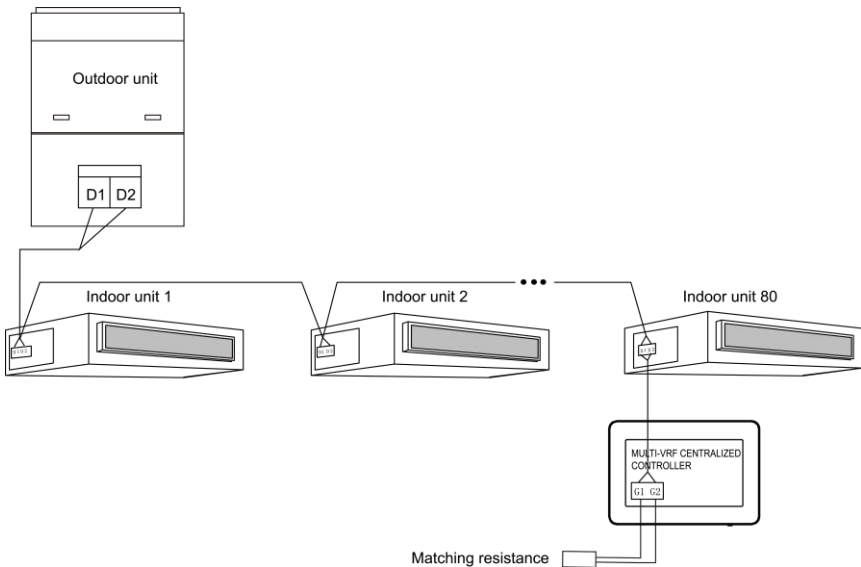

Fig.1.4 Centralized Controller Connected with Indoor Network
b. If the centralized controller is to be connected with the network of indoor units, connect according to fig.1.4. The controller can connect with any one indoor unit in series, that is, connect the controller's G1 and G2 ports with the D1 and D2 ports correspondingly with communication cords. When the controller is connected with the terminal unit of indoor network, a matching resistance needs to be added with the communication cords at the G1 and G2 ports.